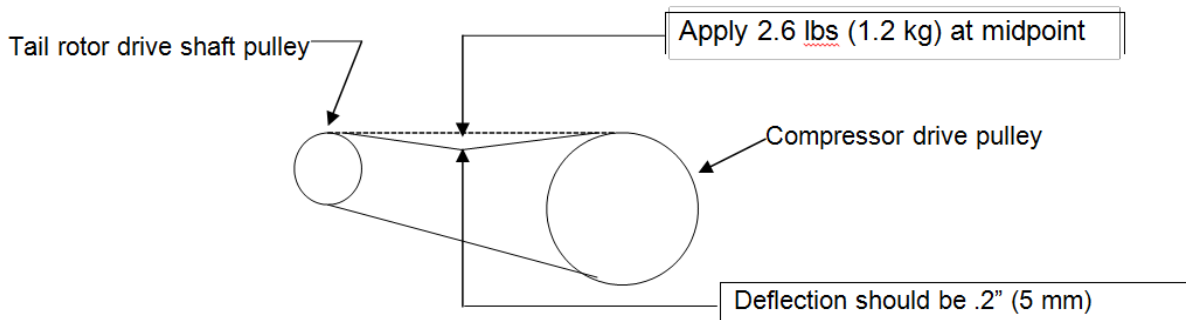

Figure 3-1 – Belt Tension Inspection
- 2) Verify proper belt tension as shown in the illustration shown below. (See Figure 3-1)